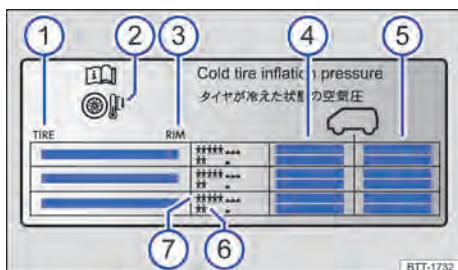

Fig. 204 Information on the tyre pressure sticker.
- Always adjust the tyre pressure to the load level → Fig. 204.